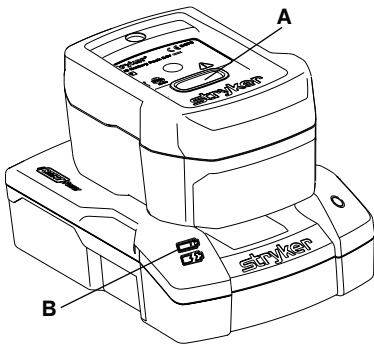

Figure 50 – Charging the SMRT Pak
To charge the **SMRT Pak** (Figure 50):
- The **SMRT** charger LED indicator (B) will flash green while charging (Figure 50). The optimum charge time is two hours.
- When the **SMRT** Pak is charged and ready for use, the **SMRT** charger LED indicator (B) turns to solid green.
2. Press the red release button (A) (Figure 50) and slide the **SMRT** Pak to release the charged and ready **SMRT** Pak from the **SMRT** charger.